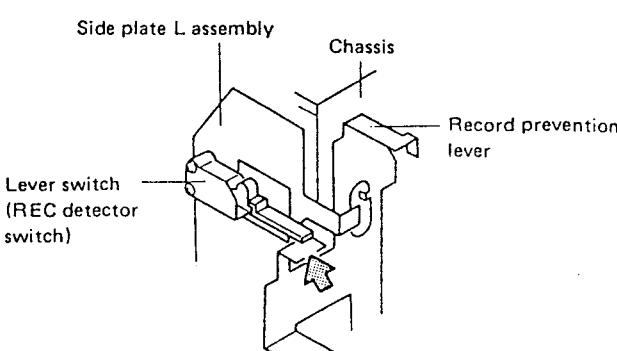

Fig. 12-3 REC detector switch adjustment
- 2. Adjust the record prevention lever (shown by the arrow in Fig. 12-3) by bending so that the lever switch is on when a half without tabs is loaded, and off when a half with tabs is loaded.